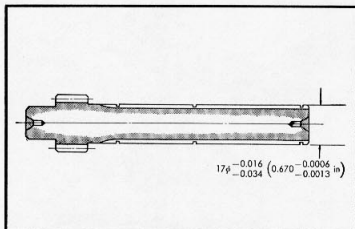

Figure 3-79. Main shift dimension
- (3) Main shaft (Fig. 3-79, 3-80)